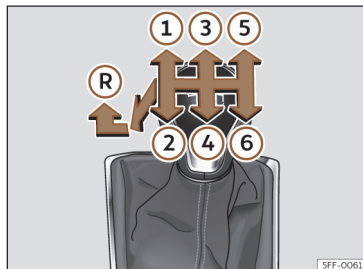

Fig. 115 Diagram of a 6-speed manual gearbox.
Gear positions are indicated on the gear lever >>> **Fig. 115**.
- With the gear lever in neutral, push it down, move it all the way to the left and then forwards to select reverse gear >>> Fig. 115 (R).